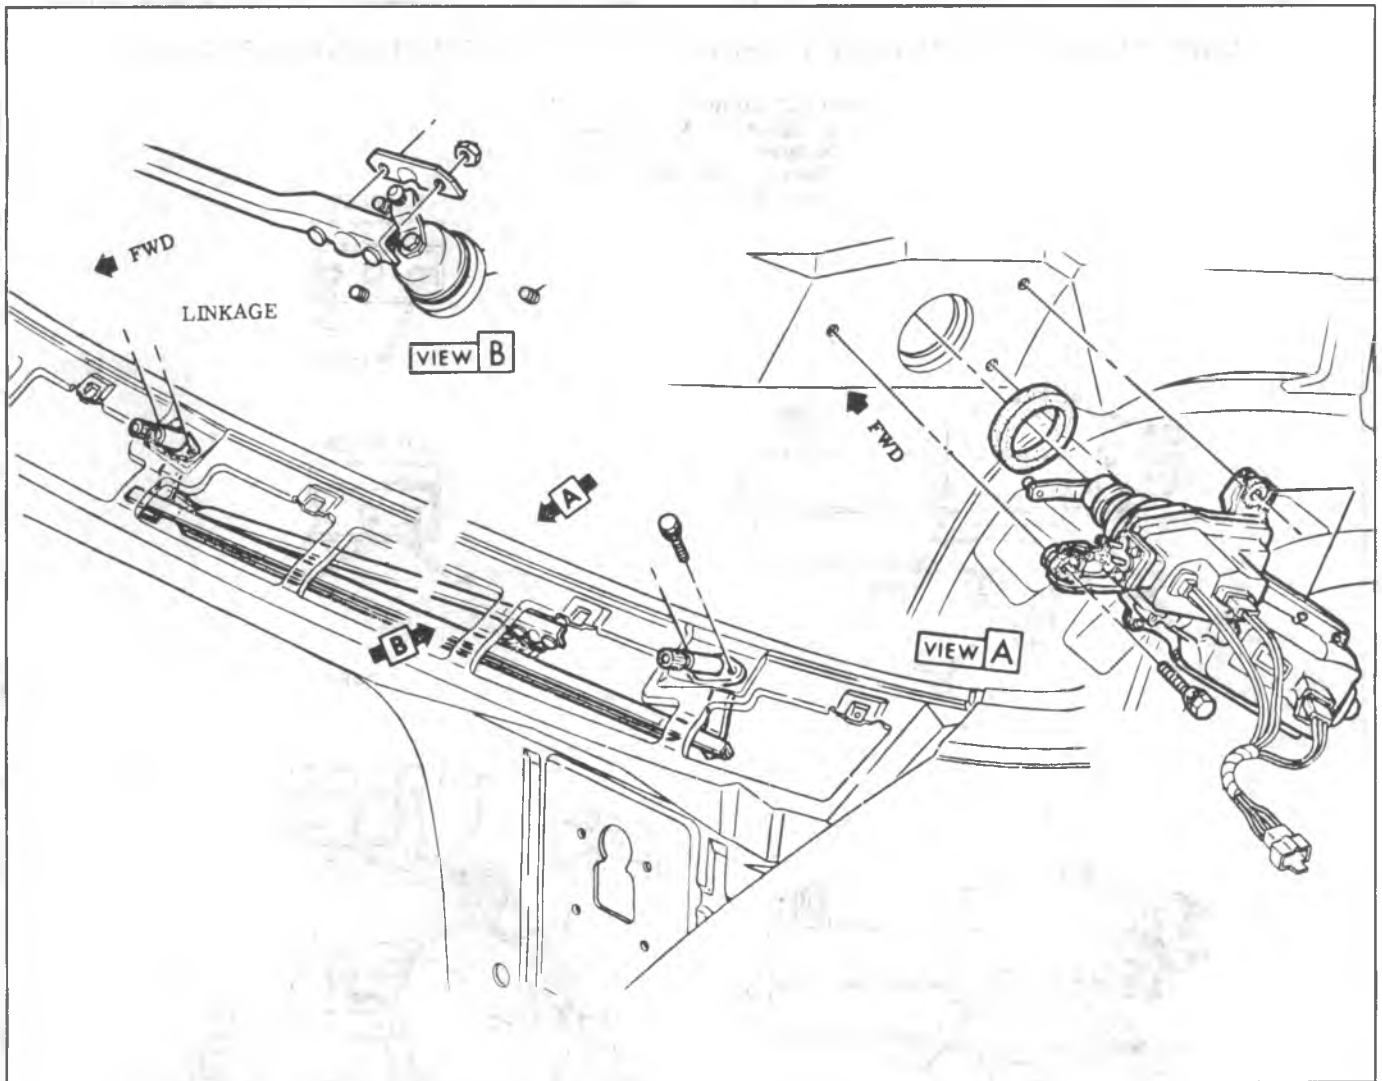

Fig. 8C-18--Wiper Motor (G Series)
2. Assemble armature in end cap assembly and reposition brush spring legs behind their respective tabs, figure 8C-22.
3. To maintain the end cap in its assembled position on armature shaft during re-assembly of armature in the wiper housing proceed as follows: Using small wire such as tag wire, tie armature to end cap assembly as shown in figure 8C-23.
### CRANK ARM, SPACER, SEAL Refer to Figure 8C-24